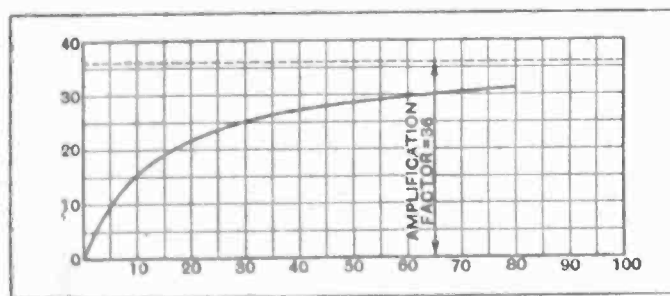
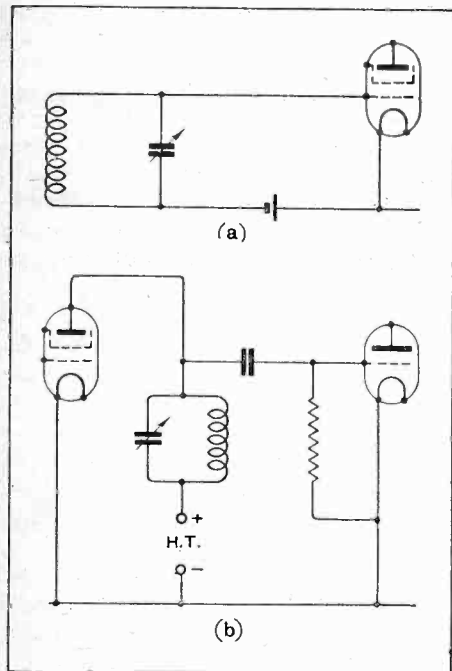

Fig. 1.—Calculated voltage amplification obtained for a valve with $\mu = 36$ and $R_a = 13,400$ ohms for various values of resistance in the anode circuit.
Fig. 2.—Where to look for losses in tuned circuits.
The voltage amplification obtained with various values of resistance in the anode circuit has been calculated from equation (1) for the same valve as treated throughout. These figures are plotted as a graph in Fig. 1 and enable one to see at a glance how the voltage amplification is determined by the value of the series resistance. When the anode resistance is made equal to 67,000 ohms, or five times the A.C. resistance of the valve, the voltage amplification is 5/6 of the amplification factor, being 30.
The curve of Fig. 1 applies only to the particular valve cited as an example, and so Fig. 2 has been drawn giving the voltage amplification as a percentage of the amplification factor, and the scale on the horizontal axis gives the ratio of the added resistance in the anode circuit to the A.C. resistance of the valve. This curve is applicable to any valve; from it we see that to obtain amplification equal to 90 per cent. of the amplification
Fig. 2.—Curve showing how the voltage amplification, expressed as a percentage of the amplification factor of the valve, depends on the ratio of anode resistance to A.C. valve resistance. This curve applies to any three-electrode valve.
As a beginning we may take the grid circuit of an H.F. amplifying valve (Fig. 2(a)) and see where matters may be improved. First and foremost comes the coil; ignoring all questions of high-note loss and stability, a reduction of the losses due to this component is most likely to be helpful. The physical size of an inductance should be a measure of its "goodness," but this is not always so, and the possibilities of making a better coil to occupy the same space should be investigated if it is found impossible to accommodate a larger winding. If coils of greater size—and consequently with a more extended external field—can be used, one is faced with the probability that more extensive inter-circuit screening will be called for.
Another glance at Fig. 2 (a) shows that the remaining component connected across the tuned circuit—and therefore capable of absorbing energy from it—is the valve; to do anything to it, short of drastically replacing an indifferent specimen or removing the cap, is beyond our powers. The latter expedient is hardly likely to appeal except to the most enthusiastic searcher after efficiency. The valve-holder must not be forgotten, and that a shilling or so may be well spent in buying a replacement that is designed to avoid any unnecessary losses.
A tuned anode intervalve coupling circuit is susceptible to the same treatment as a grid circuit. Indeed, it stands in that relationship with regard to the succeeding valve. This point, not always fully realised, is made clear in Fig. 2 (b), where the conventional circuit is drawn in a rather unconventional way.